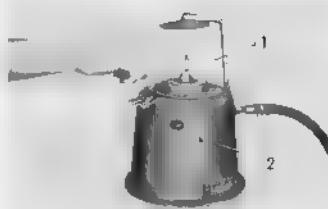

Fig. 5.9 Spark plug cleaner
- The use of the spark plug cleaner is the recommended method of cleaning the plugs, however, a satisfactory cleaning can be performed by using a needle or a stiff wire to remove the deposits and then wash in gasoline followed by drying with compressed air (Fig. 5.9)